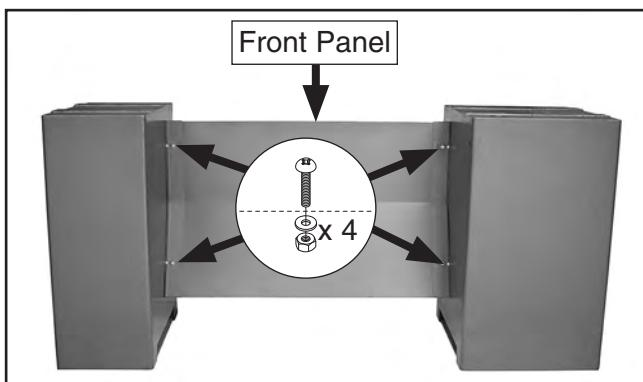

Figure 14. Front panel attached.
3. Attach front panel to panel brackets with (4) M6-1 x 10 Phillips head screws, (4) 6mm flat washers, and (4) M6-1 hex nuts (see **Figure 14**).